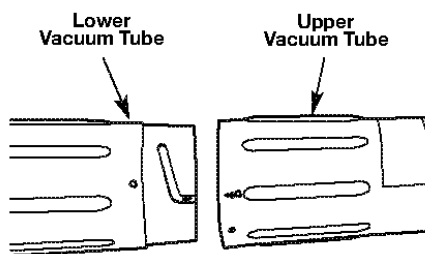

Fig. 5
5. Align the arrow on the lower vacuum tube with the arrow on the upper vacuum tube (Fig. 5).